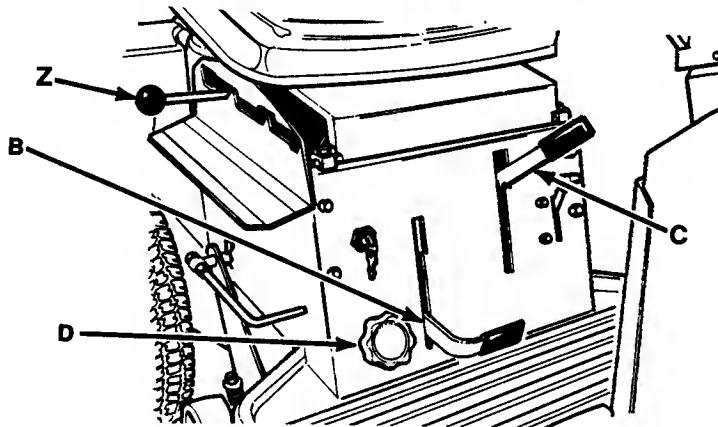

Fig. 32
4. Make sure that no one is in the path of discharge or close to the mower. Slowly engage the mower blade by moving the mower blade drive lever (C, Fig. 32) up to its ENGAGED position.
5. Lower mower lift lever (B, Fig. 32) to the lowest (DOWN) position, to position mower deck for cutting.
6. Select the gear you want by moving the transmission shift lever (Z, Fig. 32) to the
the operator's position, disengage mower blade drive and stop engine before doing so (See *Stopping*, on next page). Twist the mower height adjusting knob (D, Fig. 32) or clockwise to raise the mower (higher cut), counter-clockwise to lower the mower (shorter cut). A good cutting height to begin with is 2-1/2".